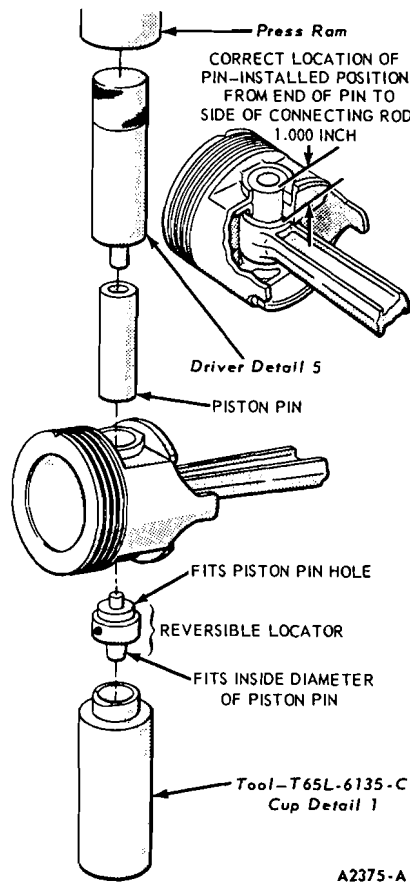

FIG. 59—Piston Pin Installation
2. Start the piston pin in the piston and connecting rod. Using an Arbor Press, press the piston pin through the piston and connecting rod until the end of the pin is 1.000 inch from the side of the connecting rod (Fig. 59).